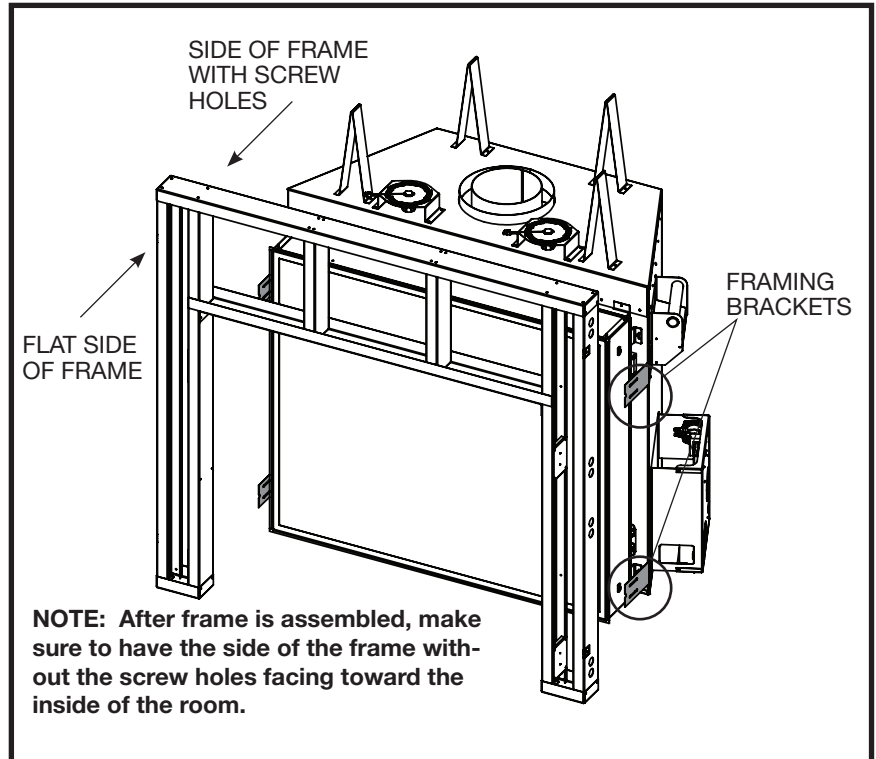

Figure 16: TC42 body with steel frame.
Align the assembled frame to the unit framing brackets (Figure 16). Align the framing plates (8) to the fastening points through the access holes in the outer side studs (3).